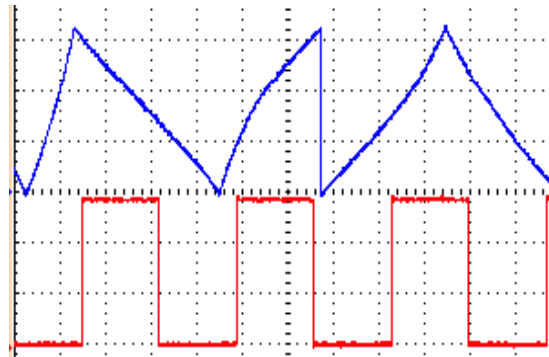

Figure 13b Async mode (Turning Skew knob in cycle mode)
- Using skew/div modulations to change the "async reset point": Patch the example above. Try turning Skew back and forth, as well as Div/Mult. Smooth, huh? Stop turning the knobs and notice how it's now starting at a different point relative to the metronome. The "reset point" has changed to accommodate your knob wiggings. If you were in sync mode, it would have snapped back to starting on the ping clock. But in Async mode, it can start anywhere. See *Figure 2* and *Figure 13b*.